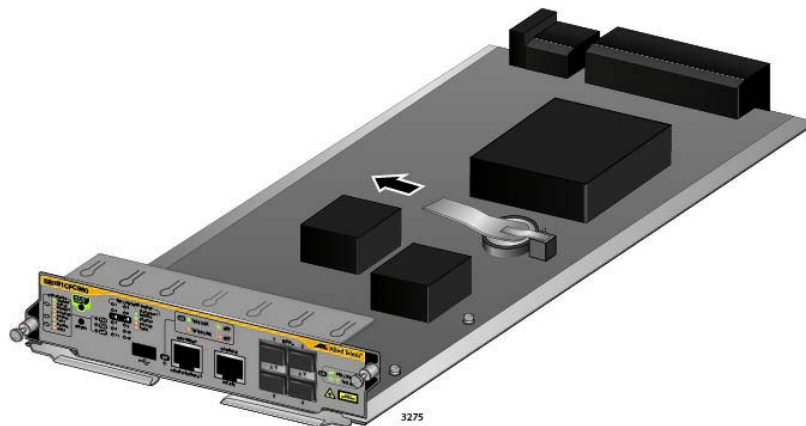

Figure 63. Removing the Battery Insulator
4. Carefully remove the battery insulator tab on the controller card by sliding it out from between the battery and battery clip, as shown in Figure 63 on page 130.